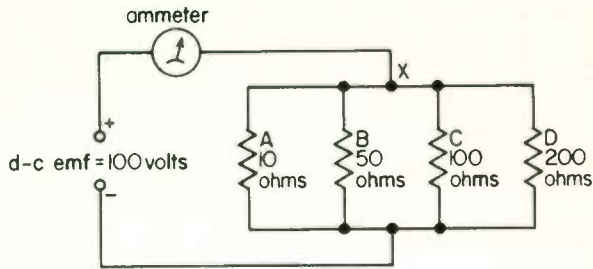

Fig. 22
- In Fig. 22 the same applied voltage appears across each of the four resistors, that is, 100 volts. Using Ohm's law, the current in amperes, through branch A is (a) 10 AMPS, the current through branch B is
4. Suppose that in the circuit shown in Fig. 22 the ammeter reading drops from 13.5 amp to 11.5 amp. Where would you look for trouble, and what would you expect to find? Resistor B open.